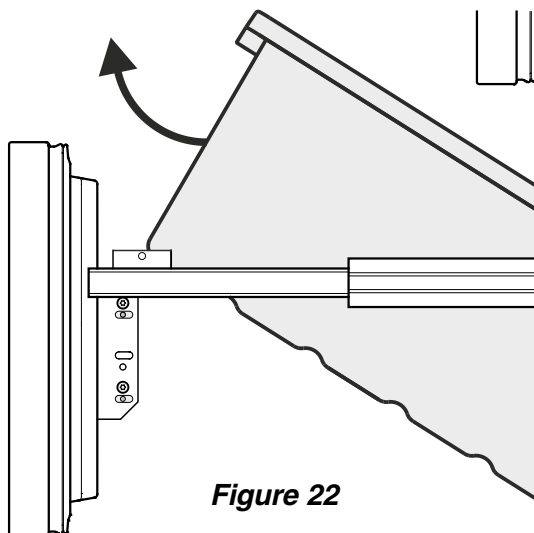

Figure 22
- Tilt the container at an angle and remove - **Figure 22**.
- Remove the freezer drawer containers as shown in **Figure 21** and **Figure 22**.